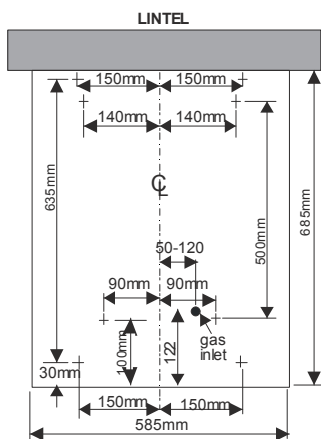

Figure 68
1. Using **Figure 68**, mark out and create the appropriate opening to accommodate the Freedom Surround.
2. With reference to **Figure 68**, mark out, drill, plug and fit the eight eye screws (outer four for fitting the Freedom surround and inner four for fitting the fire-box).
3. Install the gas supply within the opening using rigid or semi-rigid tubing allowing for rear entry into the fire box. (See **Figure 68**).